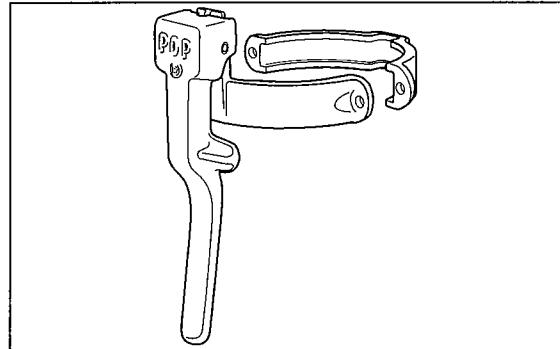

Figure 2
3. Remove the Front and Rear Clamps (Items 40 & 39). The Trigger-Lever (Item 37) is attached to the Rear Clamp (Item 39). (See Figure 2)